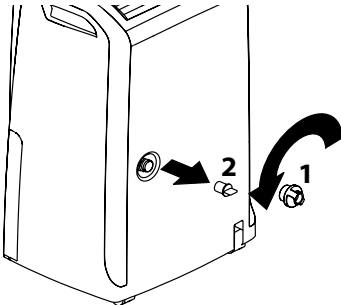

Fig. 2
- 1) Remove the continuous drain cap **1** by turning it counter-clockwise then remove the rubber stopper **2** from the spout (fig. 2).
**Note:** Some leakage from the spout could happen when removing the rubber stopper **2** (fig. 2).